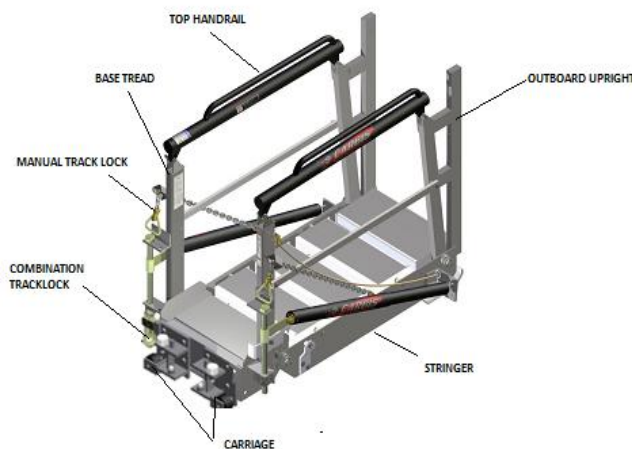
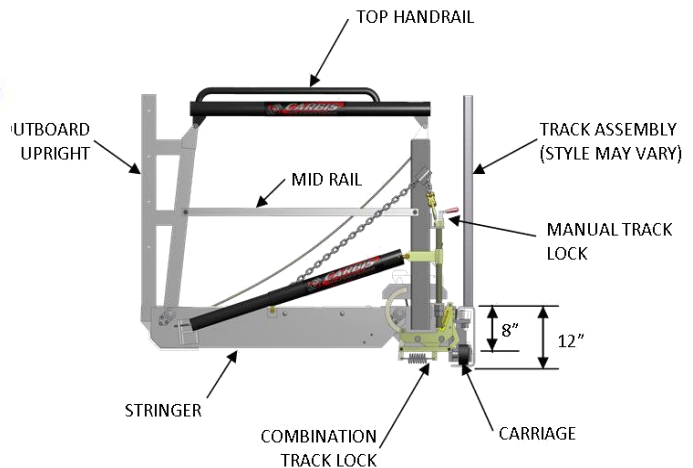

FIGURE 2-5
FIGURE 2-6
c) **OPTIONAL TCG TRACK AND CARRIAGE WITH TCG-S910.1 TRACK LOCK MECHANISM (SEE FIGURE 2-5 AND FIGURE 2-6)**